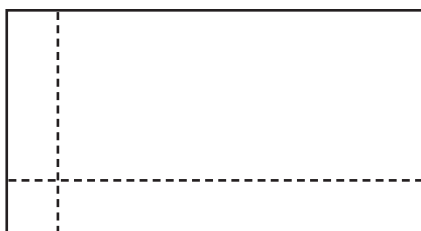

Fig. 4
1. Line off entire area to be installed (Fig. 4).